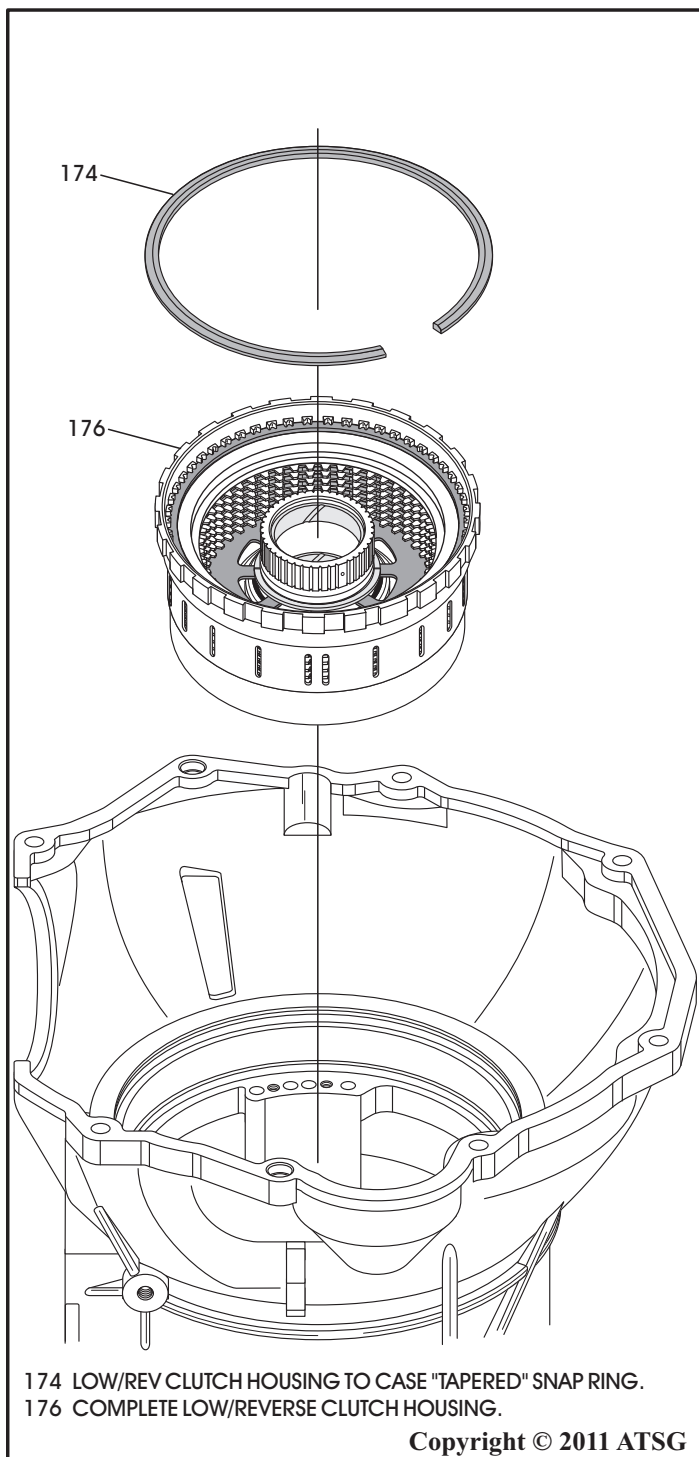

Figure 54
43. Remove the "tapered" snap ring from the case that retains the low/reverse clutch housing in transmission case, as shown in Figure 54.
44. Remove the complete low/reverse clutch housing from the case, as shown in Figure 54, and set aside for component rebuild.